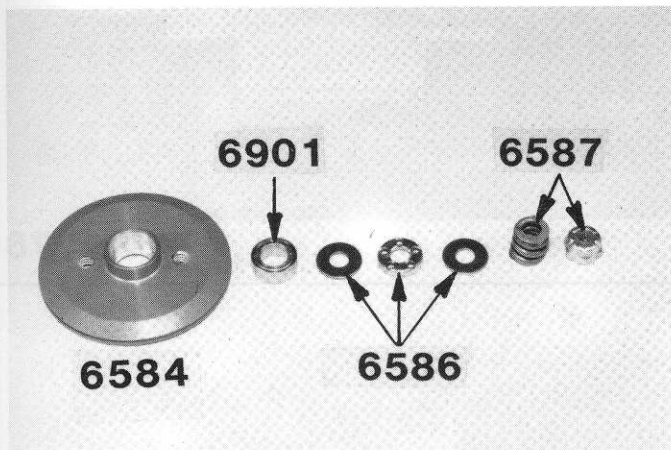

Fig. 74
□ **Fig. 74** Now we'll be assembling these parts, in the order shown, onto the shaft. First, install the #6901 ball bearing from Bag B into the #6584 clutch hub, and then slide the hub onto the shaft, making sure the clutch disk stays centered on the hub.